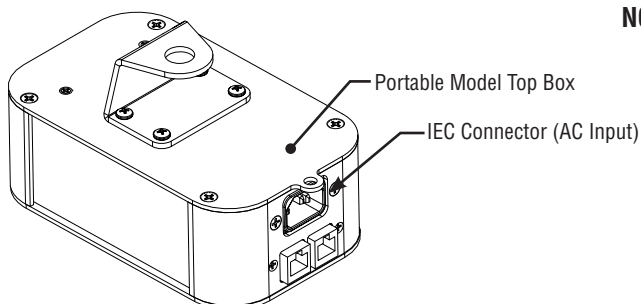

Figure 13: IEC Connector - Portable Models
Step 2. As illustrated in **Figure 13**, position AC input cable in direct relation to the IEC connector on the side luminaire top box assembly.